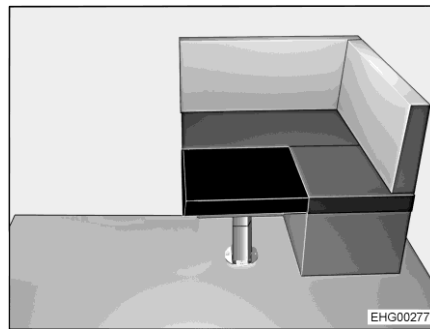

Fig. 56 After conversion
- Place the additional cushion onto the table top (Fig. 56).